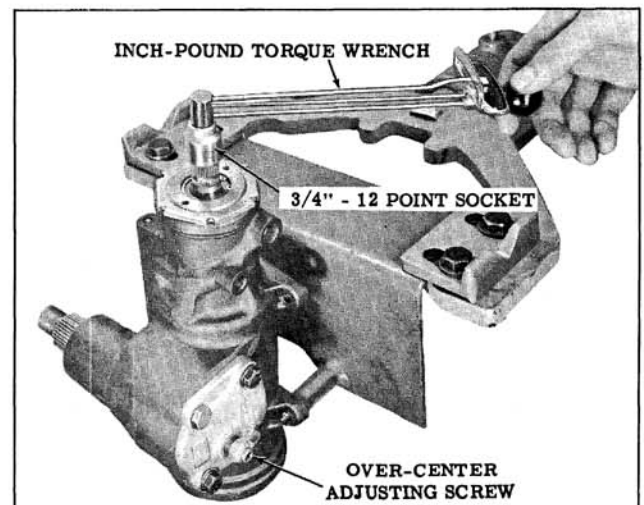

Fig. 8-72 Checking Over-Center Pre-Load
- c. Rotate the lower shaft from one stop to the other to count the number of turns and locate the center of travel, then check the combined ball and thrust bearing pre-load by rotating the torque wrench through the center of travel. (Fig. 8-72) Note the highest reading.